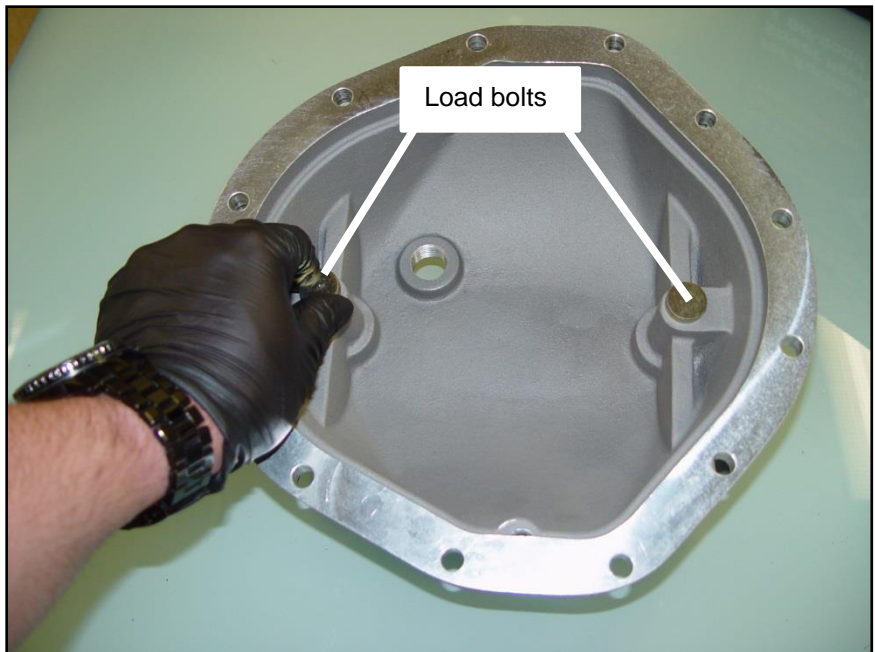

Figure 3
STEP 10. Install the supplied load bolts in each boss from the inside of the **B&M Cast Aluminum Rear End Cover** until they bottom out (**See Figure 3 & 4**).